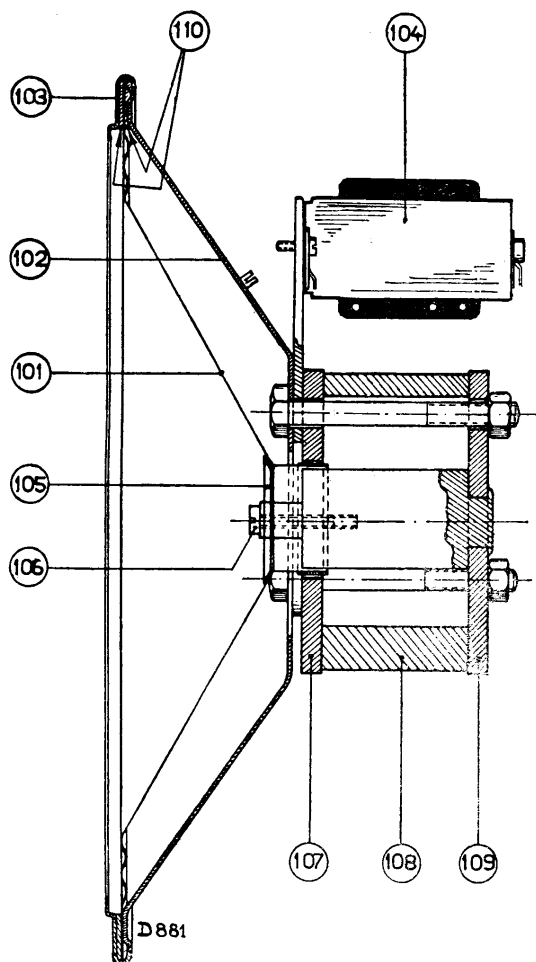

Fig. 4.
2. Under no circumstances may the front and back plates (fig. 4 item 107 and 109) be removed from the magnet as this would impair its magnetism (as would also be the case when working on an iron bench).
The coil may have become jammed in the air-gap (shown in fig. 4) or there is a partial short circuit in the windings of the speech coil or transformer.